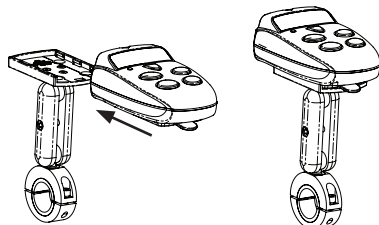

Figure 4
5. Slide the Main Console (sold separately) onto the Mounting Plate as shown in **Figure 4**.